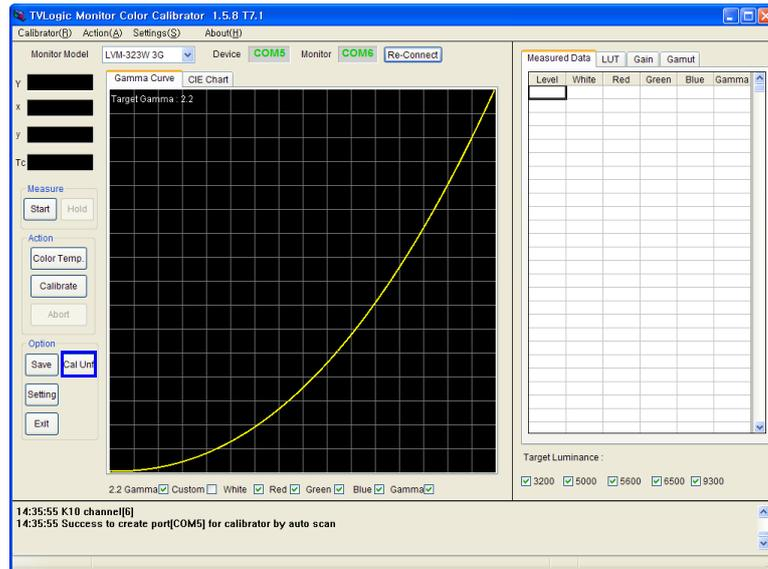

Fig 17 Calibration Uniformity
1. Click “Cal Unf” button. (Fig.17)